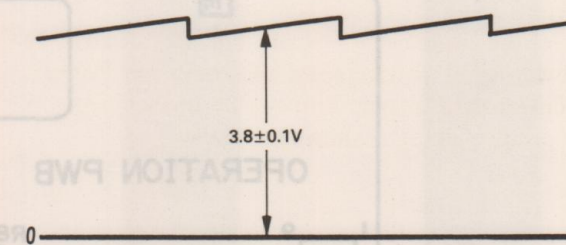

Figure 50
- ① Place the VTR in the REC mode.
- ② Observe Pin ⑧ of the Main Servo IC (I704) through the external Auto positive terminal of the oscilloscope, and check to see that the REC control signal waveform is as shown in Fig. 50.
- ① Place the VTR in the Playback mode.
- ② Observe TP7 of the main servo circuit on the oscilloscope and check to see that the voltage at TP7 is  $3.8 \pm 0.1$  V as shown in Fig. 50.